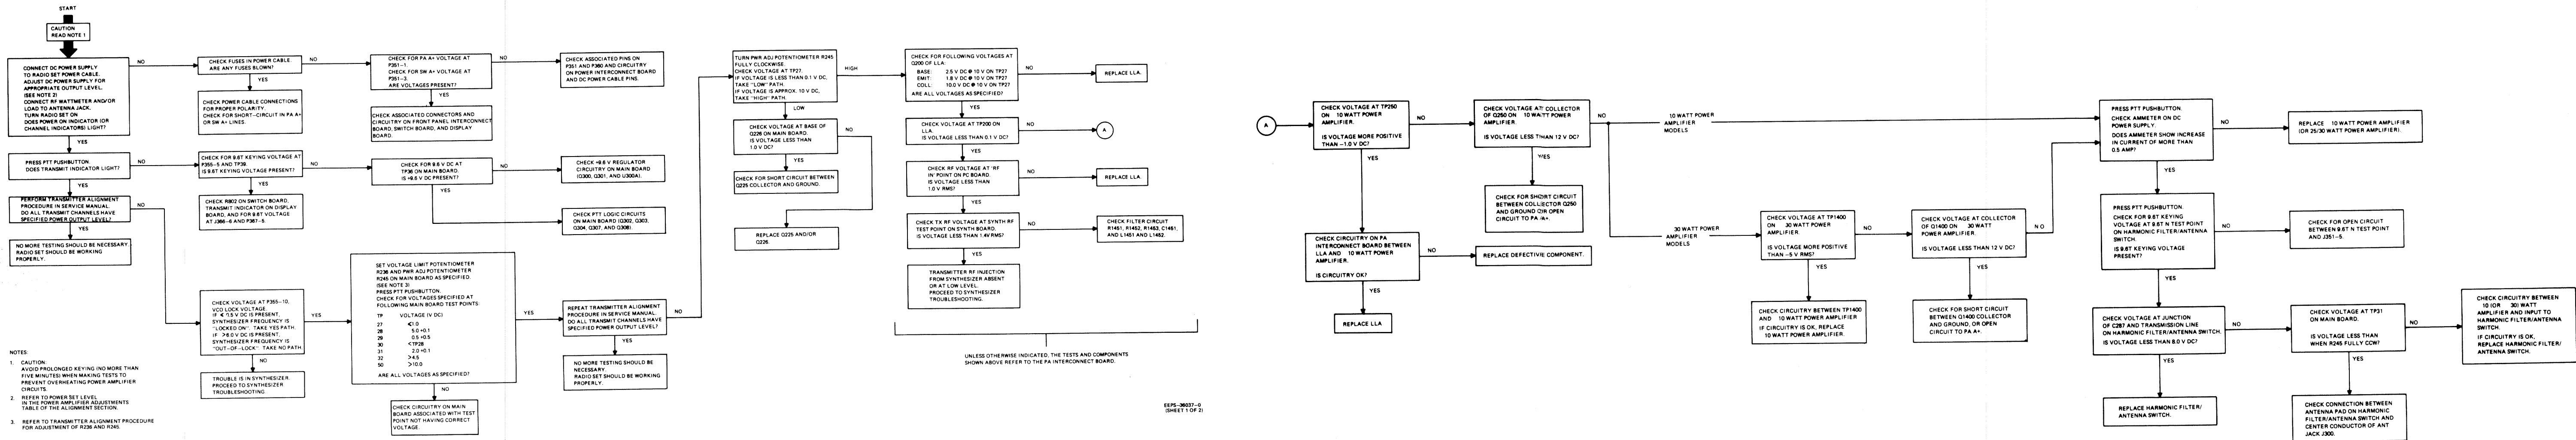

Figure 8. Transmitter Troubleshooting Chart
- Figure 8 — Transmitter Troubleshooting Chart